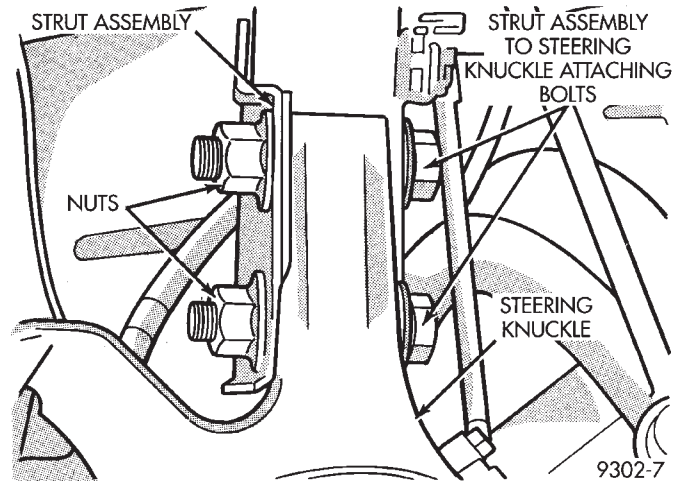

Fig. 13 Strut Assembly To Steering Knuckle Attaching Bolts
(7) Install the strut assembly to steering knuckle attaching bolts (Fig. 13). Install nuts on attaching bolts (Fig. 13). Torque the strut assembly to steering knuckle attaching bolt nuts to 169 N•m (125 ft. lbs.). **TURN NUTS ON BOLTS DO NOT TURN BOLTS.**